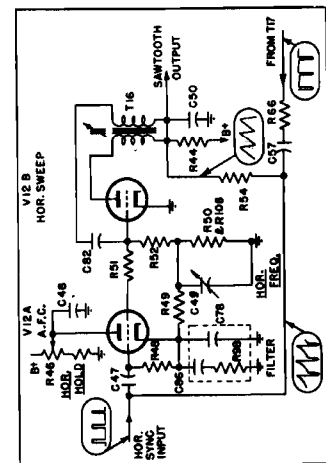

Fig. 6. Horizontal Sweep and A.F.C. Sync
6. HORIZONTAL SWEEP GENERATOR AND AFC SYNC (SEE FIGURE 6)—The horizontal sawtooth generator makes use of one section of a Type 6SN7GT tube, V12B, connected in a blocking oscillator circuit. Instead of its frequency being controlled directly by the horizontal sync pulses, it is controlled by a d-c voltage on its grid, which is the resultant of the phase difference between the incoming sync signal and a voltage wave derived from the output of the sweep generator. The resultant d-c voltage produced by the tube V12A is called an automatic frequency control (AFC) voltage.
The tube V12A obtains its operating bias through its connection to the grid circuit of the blocking oscillator tube, V12B, through resistor, R51. The blocking oscillator produces a large negative bias in its grid circuit during its normal operating cycle. When the horizontal sync pulses or the combined output voltage (shown at lower left of Figure 6) are impressed separately on the grid of tube V12A, they do not have sufficient positive amplitude to cause appreciable plate current flow in tube V12A. However, if they are combined and phased properly as shown in Figure 7A, B, or C, their composite amplitude is sufficient to cause plate current flow in tube V12A. This current flows through the voltage divider consisting of the plate circuit capacitors C66 and C78, which shape is above the d-c line axis in Fig. 7D. Due to the voltage charged positive in respect to ground, the magnitude of the charge and the resultant voltage thereon, being dependent upon the duration of the flow of plate current in tube V12A.